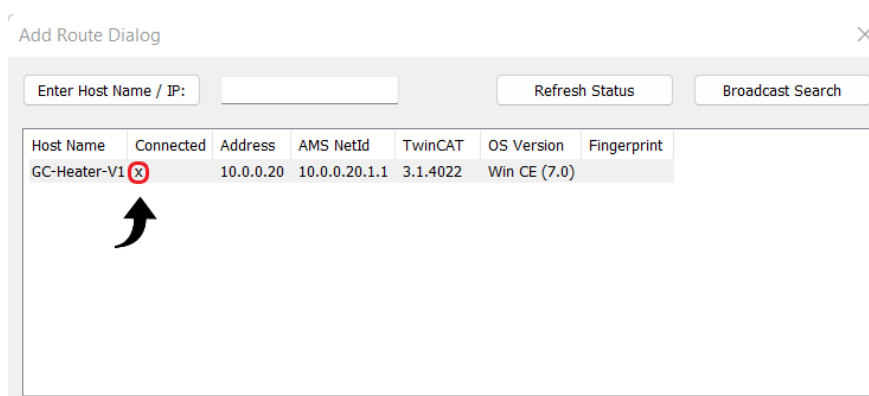

Figure 33: Static Routes – ‘Add Route Dialog’ window, connection indicator
- If you were successful in adding the route you will now see an 'x' appear in the 'Connected' column next to the controller you added as is highlighted in Figure 33 on the next page. Without closing the 'Add Route Dialog' window, repeat steps 7 & 8 for any additional controllers the scan found that you wish to connect to (if applicable). If you were not successful in adding the route, please ensure you've completed all steps in the previous sections correctly and try again.